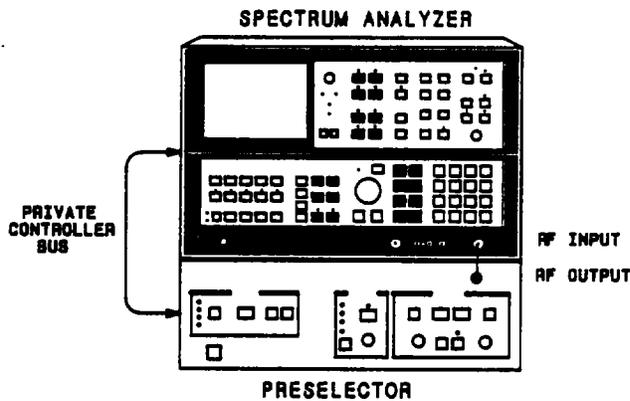

Figure 1. Displayed Average Noise Test Setup
1. Connect equipment as shown in Figure 1.